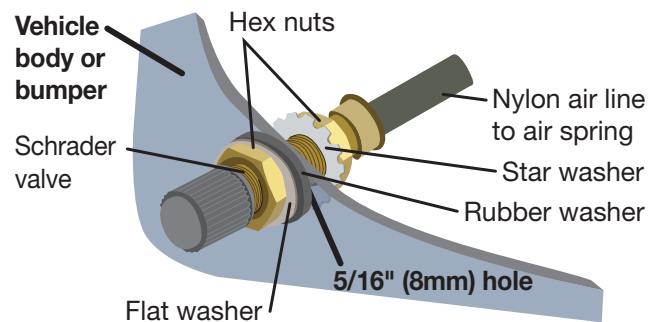

Fig. 40
4. Install the Schrader valve in the chosen location (Fig. 40).